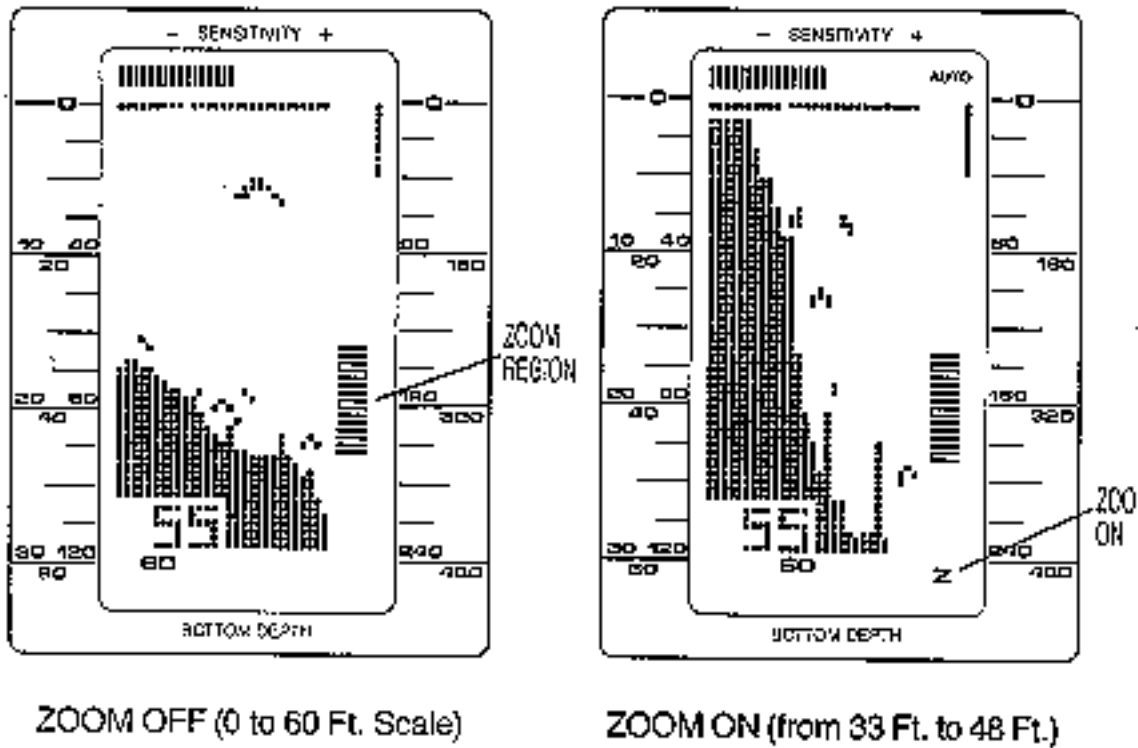

FIGURE 15
First, position the Zoom Region (see fig.15) next to the area that you want to expand by pressing the set and up (upper arrow sign) or down (lower arrow sign) button. Next, by pressing the Zoom On/Off button the Zoom will be
activated. You will notice that the letter Z appears in the lower right hand corner of the display, indicating that the Zoom is on. You will also notice that the entire screen has been changed to show an expanded view of the area from the tip of the Zoom Range to the bottom of the Zoom Range. The LCR3000's Total Screen Update feature allows you to zoom in on an area even after you have passed over it. Figure 15 show two screen, one with Zoom off and one after turning Zoom on.
- B. The Zoom Range indication at the right of the display can be used for depth reference. For example in Figure 15 the Zoom Range is set between 33 feet and 48 feet. This means that when the Zoom is activated that you are looking at an expanded view of the area from 33 feet to 48 feet.